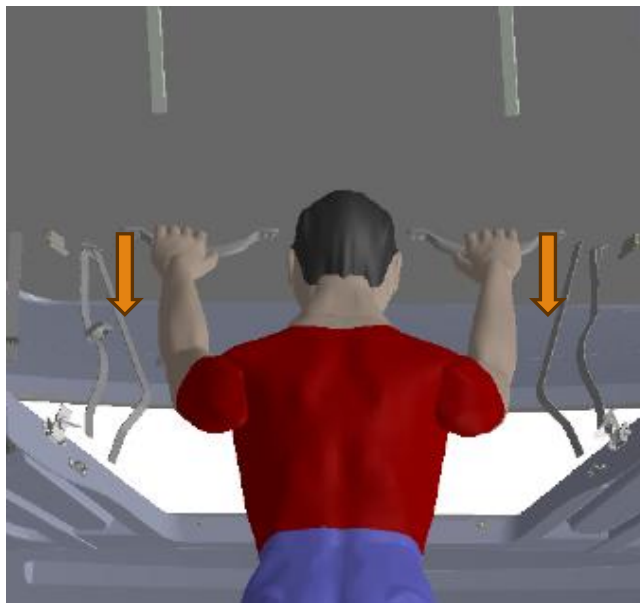

Fig. 5
- Grab both tensioning straps with both hands simultaneously, and pull each down with one hand. Perform this action evenly, so as not to tilt the roof to either side of the vehicle. While pulling down, stop the roof from falling by grasping the handles located next to the straps. ( Fig. 5)